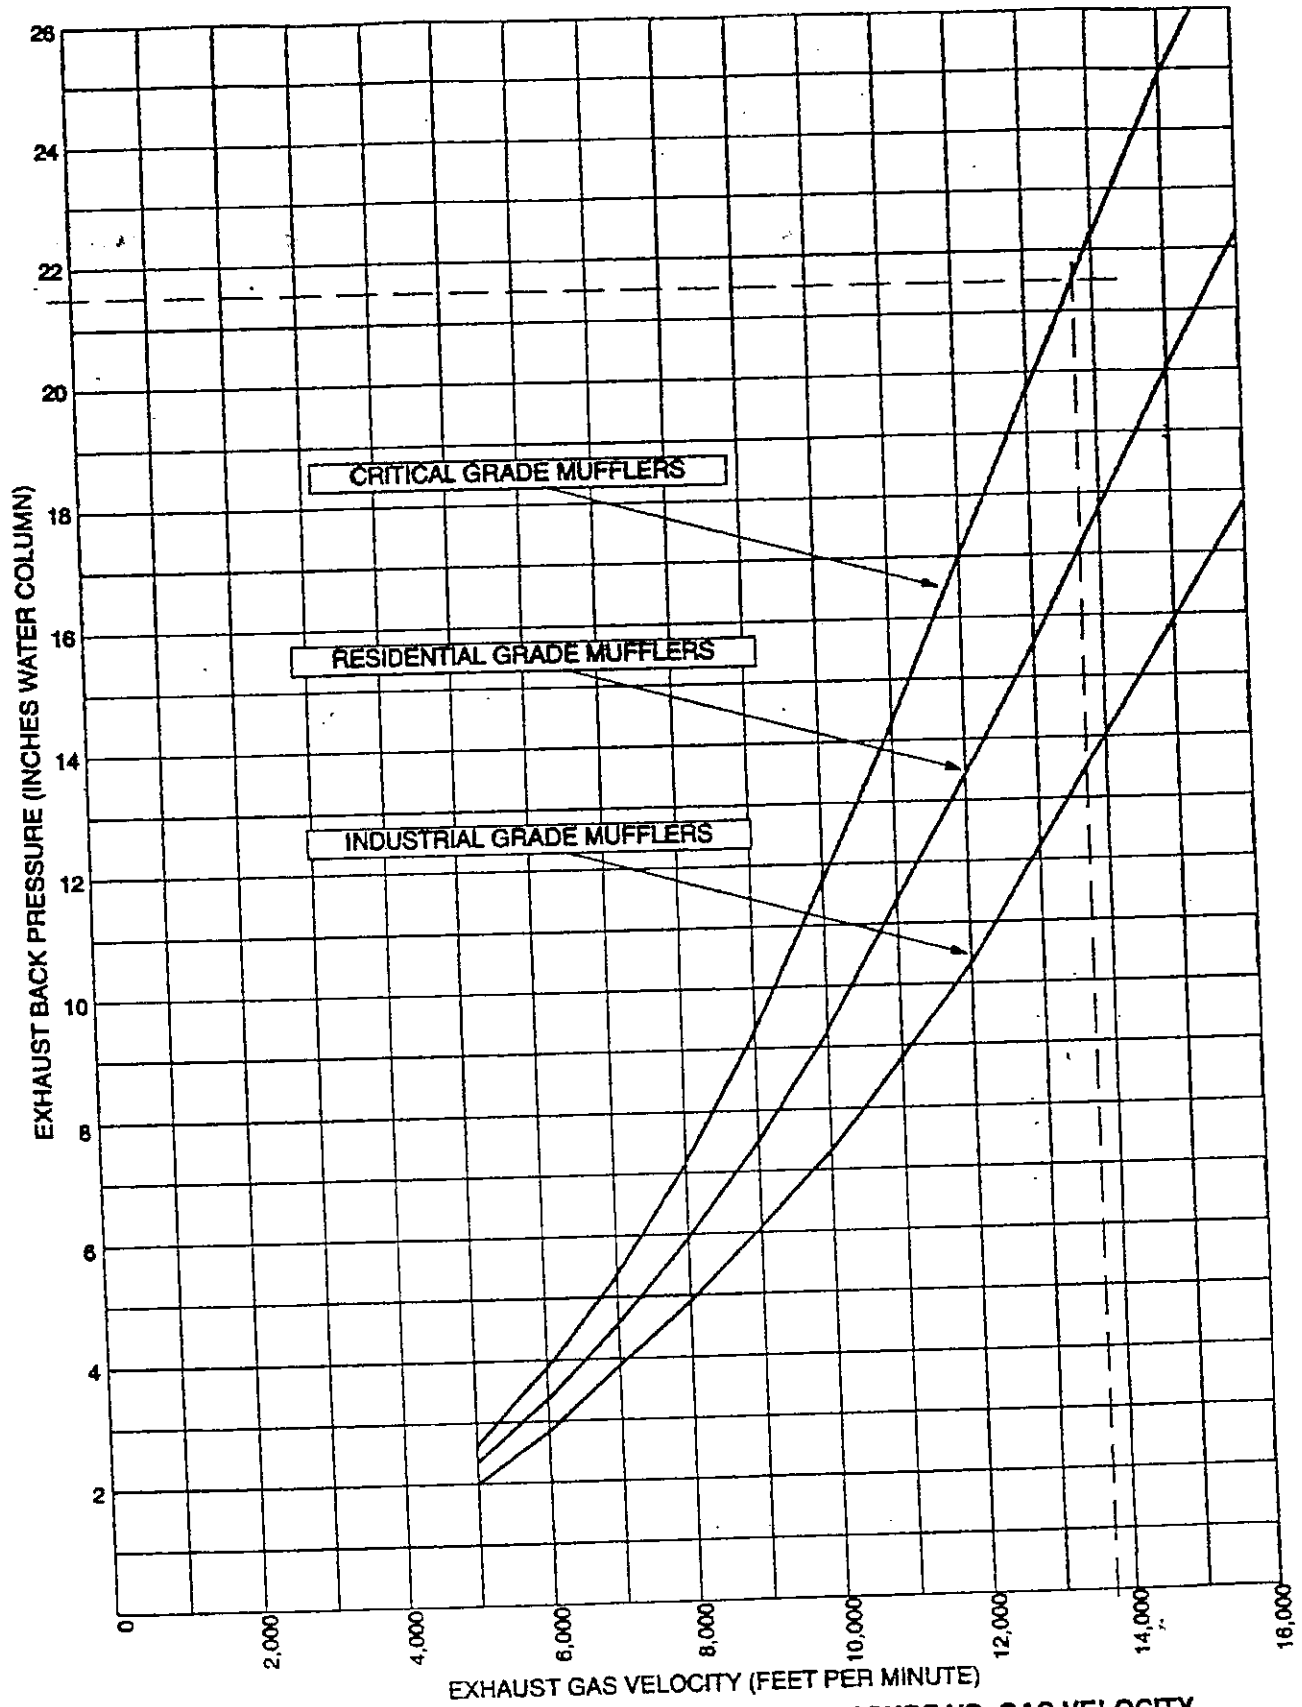

FIGURE 22. TYPICAL MUFFLER EXHAUST BACK PRESSURE VS. GAS VELOCITY
1. Determine the exhaust back pressure caused by the muffler. Figure 22 is a graph of exhaust back pressures for mufflers made available by TPS. If the muffler is from another source, it will be necessary to obtain equivalent data from the muffler manufacturer. To use Figure 22:
- C. In this example, the dashed lines in Figure 22 show that the critical grade muffler will cause a back pressure of approximately 21.5 inches W.C.